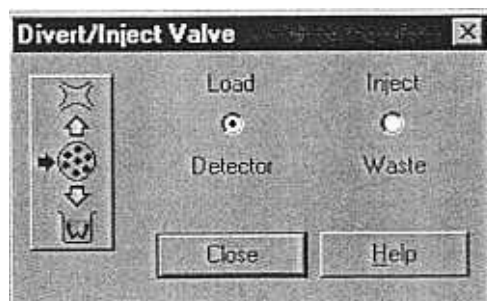

Figure 4-6. Divert/Inject Valve dialog box
- a. Click on the Divert/Inject button to open the Divert/Inject Valve dialog box. See Figure 4-6.